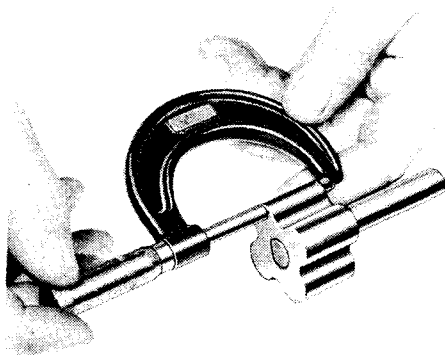

Fig. 45—Measuring Inner Rotor Thickness
- (4) If inner rotor length measures less than .942 inch (Fig. 45), replace inner rotor.